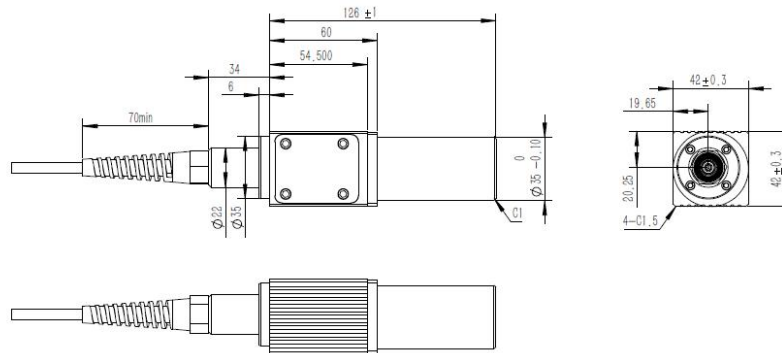

Figure 2 Dimension drawing of output isolator (Unit: mm).
b) Isolated output head dimensions (As shown in Fig. 2).